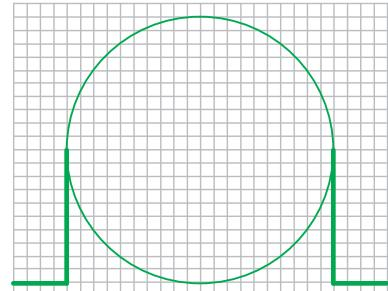

Fig. 7
Step 2. Sketch the lines in Fig. 7